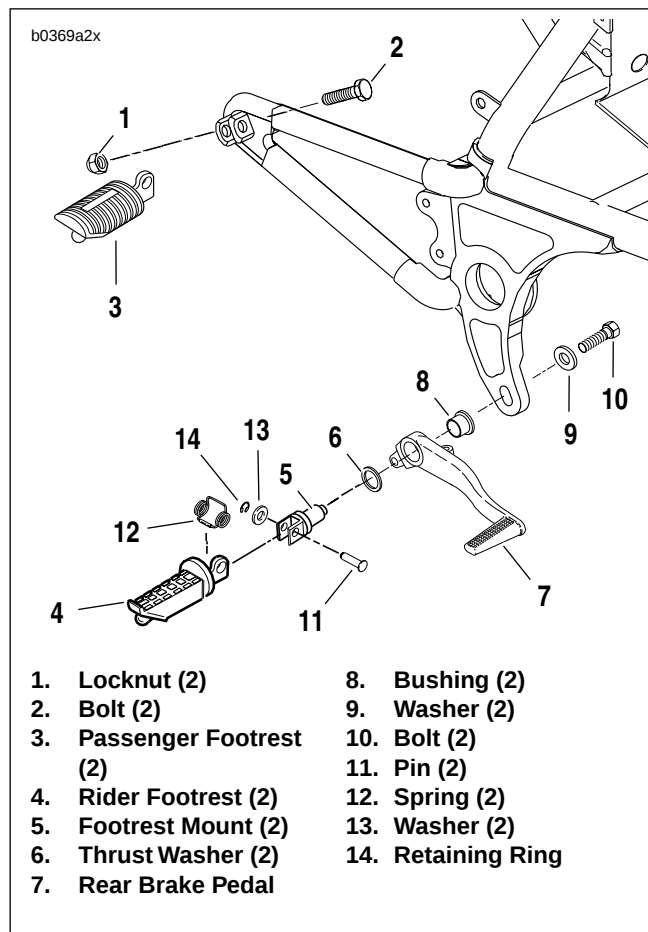

Figure 2-94. Footrests, Right Side
1. See Figure 2-94. Remove locknut (1), bolt (2) and passenger footrests (3) from frame.
- a. Remove retaining ring (14) and washer (13) from pin (11).
- b. Hold hand over spring (12) and remove pin (11), spring (12) and footpeg (4) from mount (5).
- c. See Figure 2-94. Remove bolt (10) and washer (9) to detach footrest mount (5) from frame.
- d. Slide bushing (8), pedal and thrust washer (6) off footrest mount.
1. See Figure 2-94. If removed, install passenger footrests.